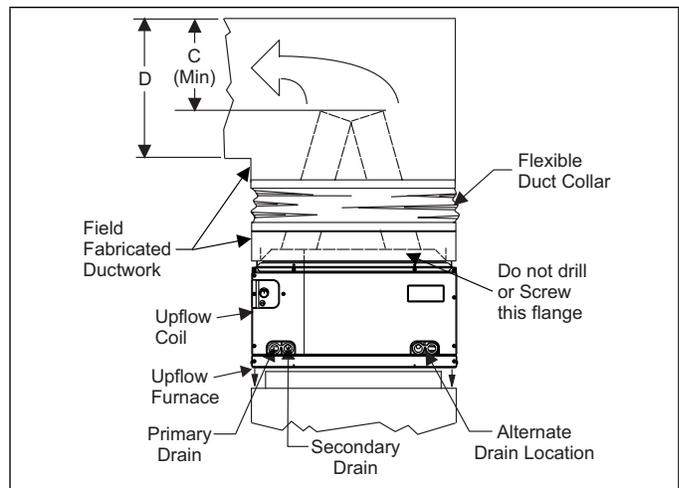

FIGURE 6: PC Series Upflow Coil Installation
Dimension "C" should be at least 2/3 of dimension "D". See Figure 6.
1. Position the coil casing over the furnace opening as shown in Figure 6.
Do not drill any holes or drive any screws into the front duct flange on the coil in order to prevent damaging coil tubing. See Figure 6.